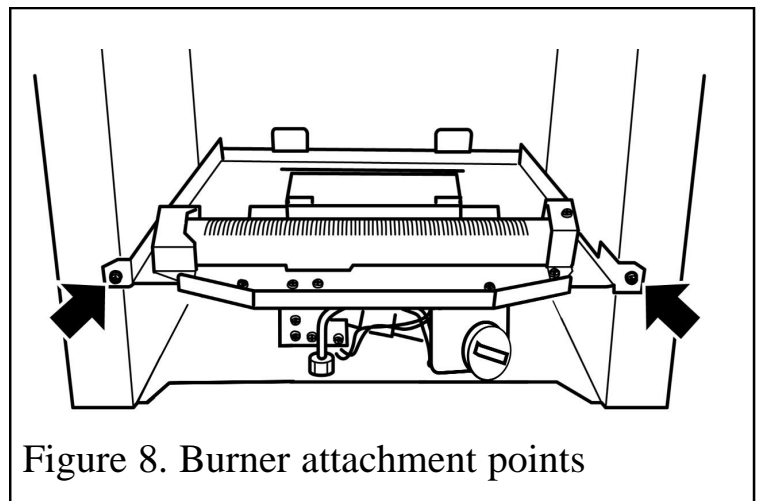

Figure 8. Burner attachment points
1. Detach the burner unit from the convection box by removing two screws (See figure 8). Lift the burner unit clear.